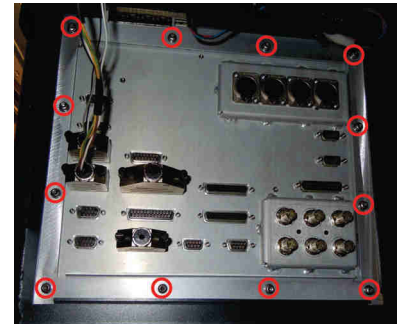

Fig. 7.19 12 screws
- 6 From the bottom of the cabinet, remove 12 Torx T20 screws holding the External I/O board (tools 1/8). The position of the screws is shown in Fig. 7.19 \(p. 122\).